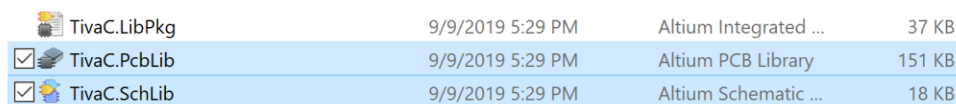

Figure 7: Tiva Libraries
12. Double click on the “TivaC_Lib” folder and select the files highlighted in Figure 7.